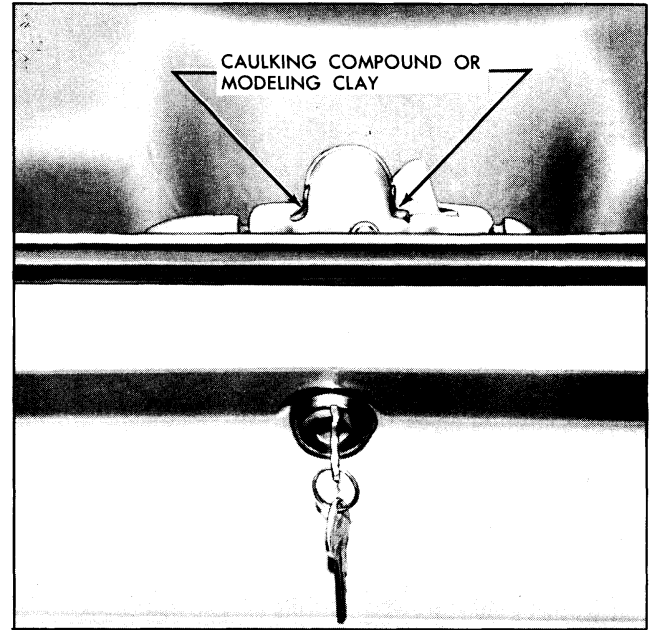

Fig. 15-9 Rear Compartment Lock Striker Engagement Check
1. Place a small amount of modeling clay or body caulking compound on frame of lock at both sides of the lock bolt (Fig. 15-9). Close lid with moderate force.
frame (Fig. 15-9). Where required, loosen striker attaching screws: adjust striker sideways or up or down to obtain proper engagement, then tighten screws.